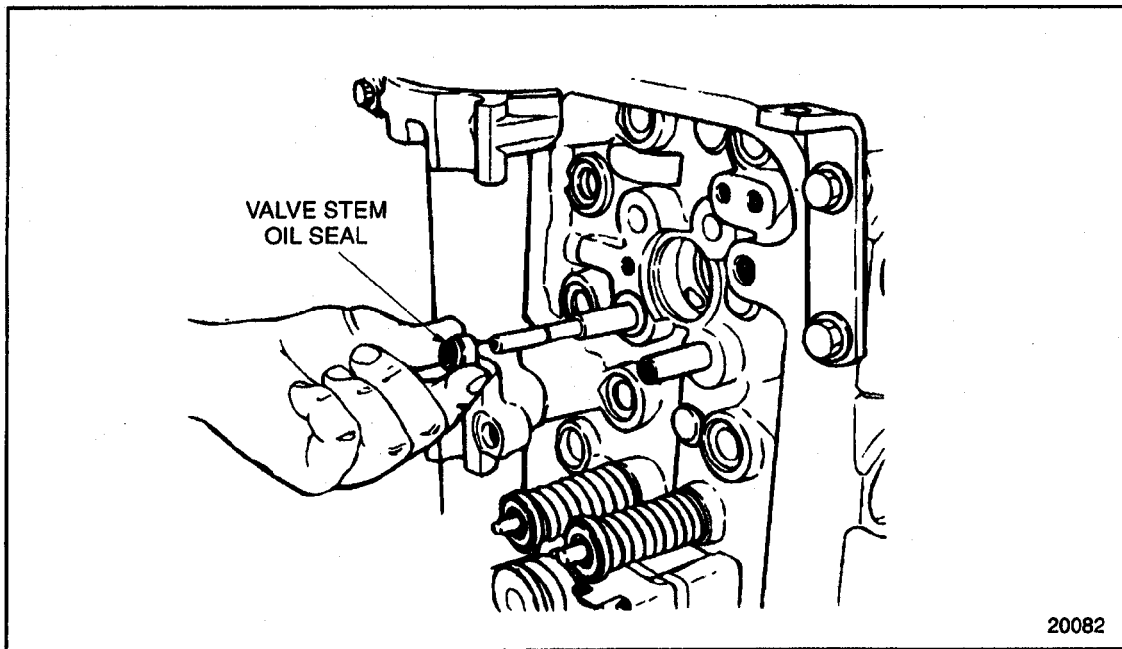

Figure 1-87 Valve Stem Oil Seal Installation
5. The valve stem oil seal may be installed with or without oil. Push the seal over the protector. See Figure 1-87.